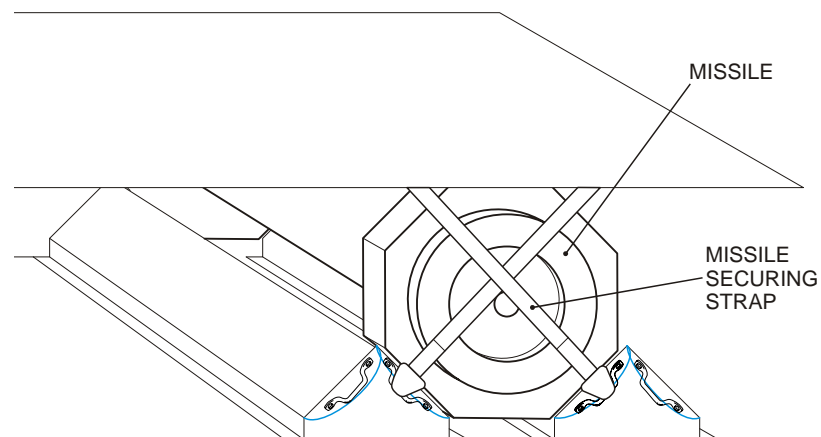

Figure 7 RBS 70 Missile Stowage (inside)
11. The missile storage module (Figure 7) holds up to eight RBS 70 missiles in their storage containers in two racks containing four missiles each. The module is located immediately behind the vehicle cabin. The missiles can be accessed from either side of the vehicle.